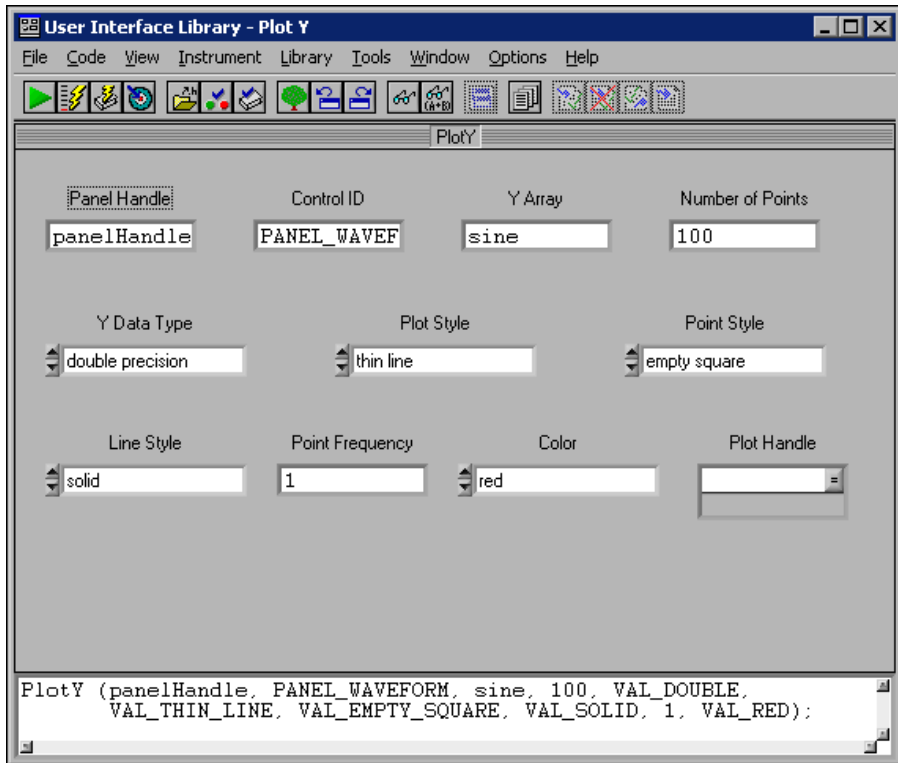

Figure 6-1. Completed Plot Y Function Panel
4. Type `100` into the **Number of Points** control. This number indicates the number of elements in the array to plot. When your Plot Y function panel matches the one in Figure 6-1, you are ready to go to the next step.